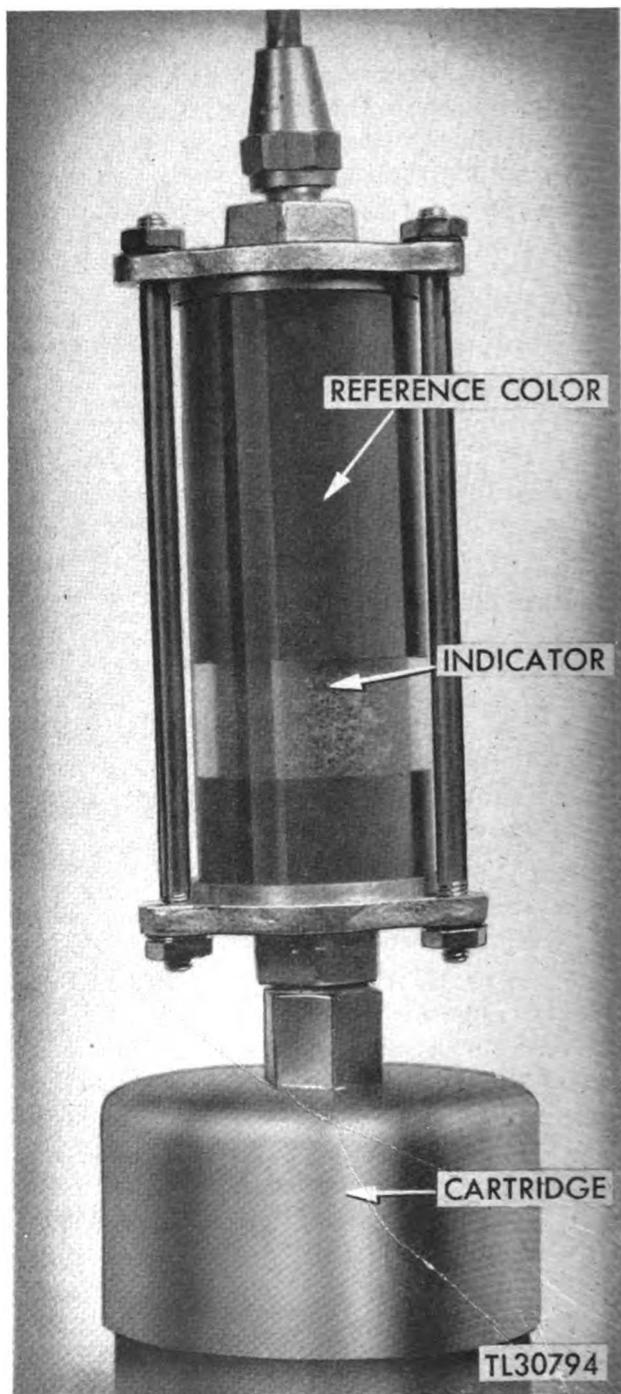

Figure 61. Dehydrator indicator cell.
**LOCATION.** The silica-gel color indicator is located above the dehydrating cylinder of the dehydrator assembly (figs. 61 and 30).